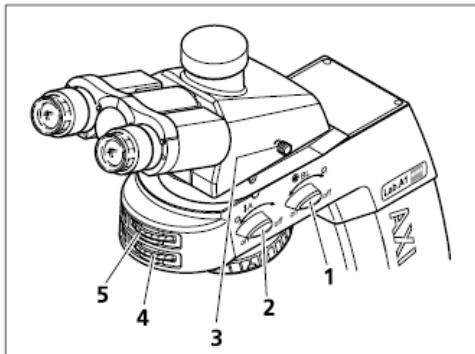

Fig. 4-10 Axio Lab.A1 for transmitted light conoscopic
- Swivel the analyzer into the beam path (**on** position) with rotary knob **A** (Fig. 4-10/2). The direction of oscillation can be changed using the setting wheel (Fig. 4-10/4) of the analyzer.
- Switch on Bertrand lens **BL** (Fig. 4-10/1) (Position **on**). The axial figure will appear in the field of view.
- Bring the axial figure into focus with setting wheel (Fig. 4-10/5).